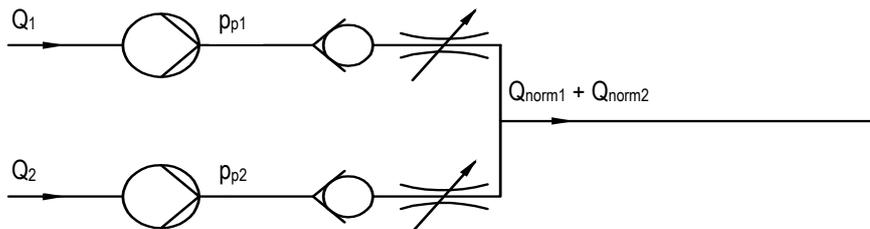

Fig. 8: Parallel operation
5. **ATTENTION** In all cases where more than one pump delivers to a common discharge pipe, every pump should be protected by a non-return valve according to figure 8. This installation is required for parallel operation and for stand-by pumps with automatic start-up.
For the layout of an installation according to figure 8, the pipe designer calculates the rated differential head H for each pump assuming that both pumps deliver the same flow $Q_1 + Q_2$ into the common discharge pipe. Considering the pressure losses of suction side of each pump, the NPSH-Available value is calculated for the flow rate Q_1 of pump p_{p1} and similarly for the flow rate Q_2 of pump p_{p2} . In parallel service, usually $Q_1 = Q_2$. Finally, the pumps are sized such that NPSH-Available exceeds NPSH-Required at Q_1 respectively Q_2 in any case. That means, no cavitation problems will occur if both pumps are operating.